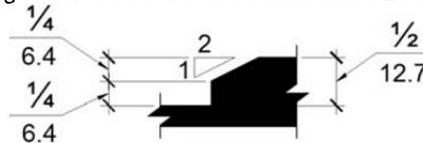

FIGURE 11B-303.3
- Detail door thresholds complying with the following per CBC Figure 11B-303.3: